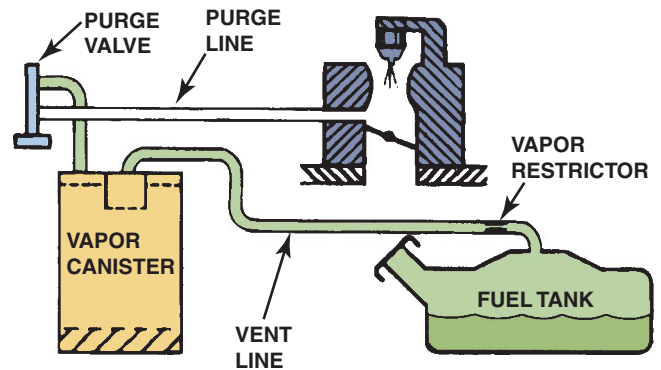

FIGURE 39-31 The evaporative emission control system includes all of the lines, hoses, and valves, plus the charcoal canister.
- **Vapor purging.** During engine operation, stored vapors are drawn from the canister into the engine through a hose connected to the throttle body or the air cleaner. This “purging” process mixes HC vapors from the canister with the existing air-fuel charge. ● **SEE FIGURES 39-31 AND 39-32.**